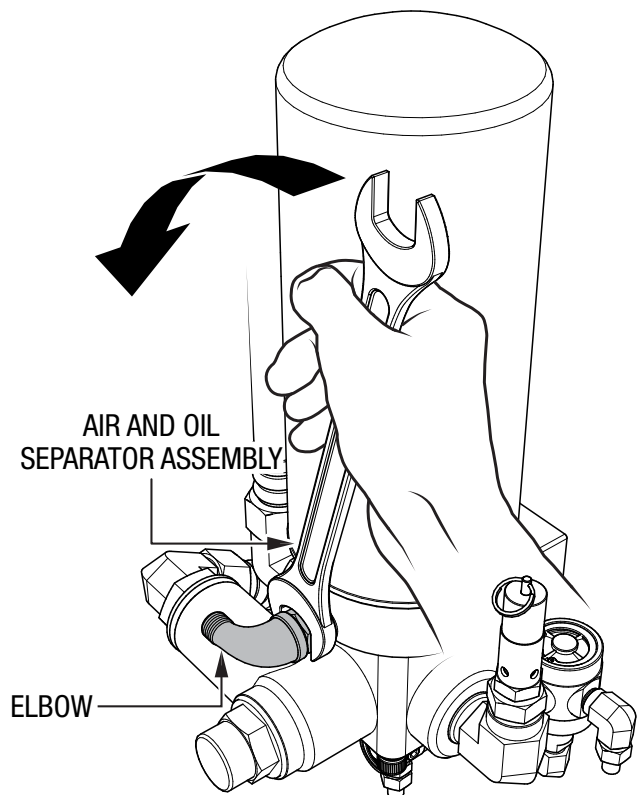

Figure 9. Elbow Removal
3. Remove the elbow from the air and oil separator assembly (Figure 9).